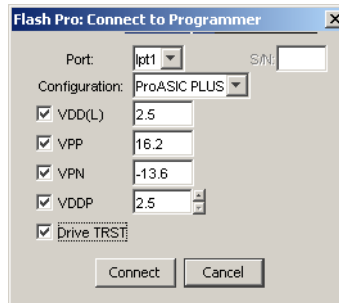

Figure 3-1. FlashPro: Connect to Programmer Dialog Box
1. From the *File* menu, click *Connect*. The FlashPro Connect to Programmer dialog box displays, as shown in Figure 3-1.